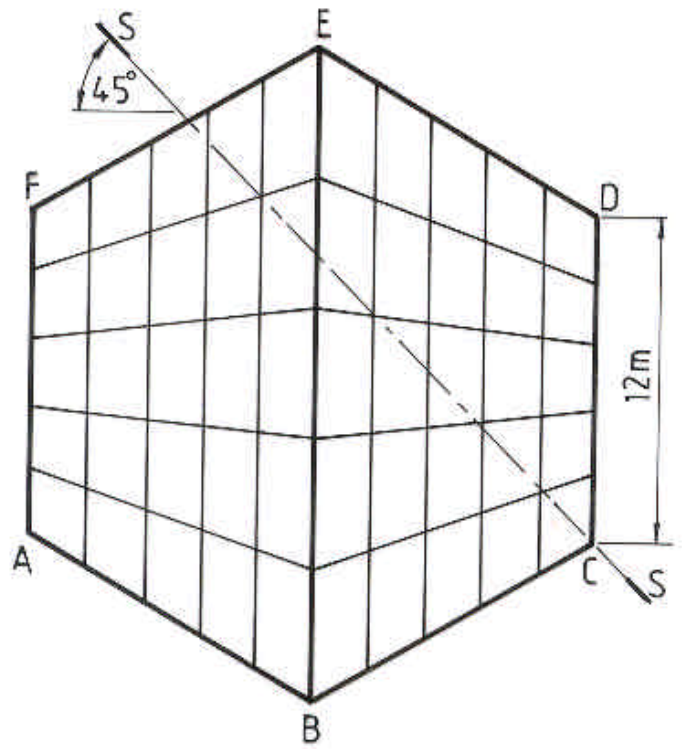

FIG. 4
4. Fig. 4 shows the outline plan of two adjoining hyperbolic paraboloid roof surfaces ABEF and BCDE. The roof perimeter is a regular hexagon in plan. The corners B, F and D are at ground level, corners A and C are 8m above ground level, and corner E is 22m above ground level.